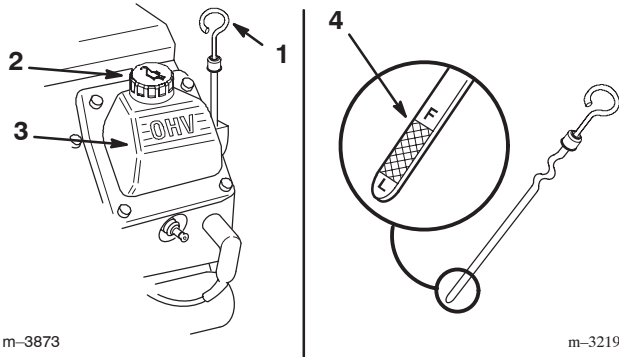

Figure 4
3. Clean around the oil dipstick (Fig. 4).
4. Pull out the dipstick and wipe the metal end clean (Fig. 4).
- Slide the dipstick fully into the dipstick tube (Fig. 4).
- If the oil level is low, clean around the oil filler cap and remove the cap (Fig. 4).